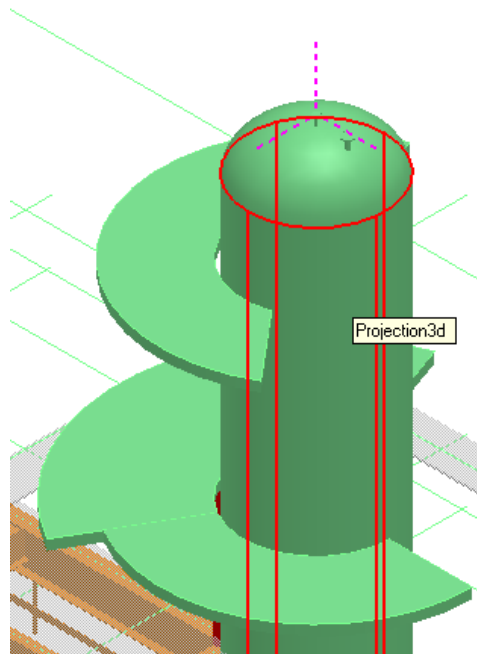

Figure 33: Defining the top edge of the ladder
28. Select the projection surface of the vertical vessel to define the top edge of the ladder, as shown in Figure 33.